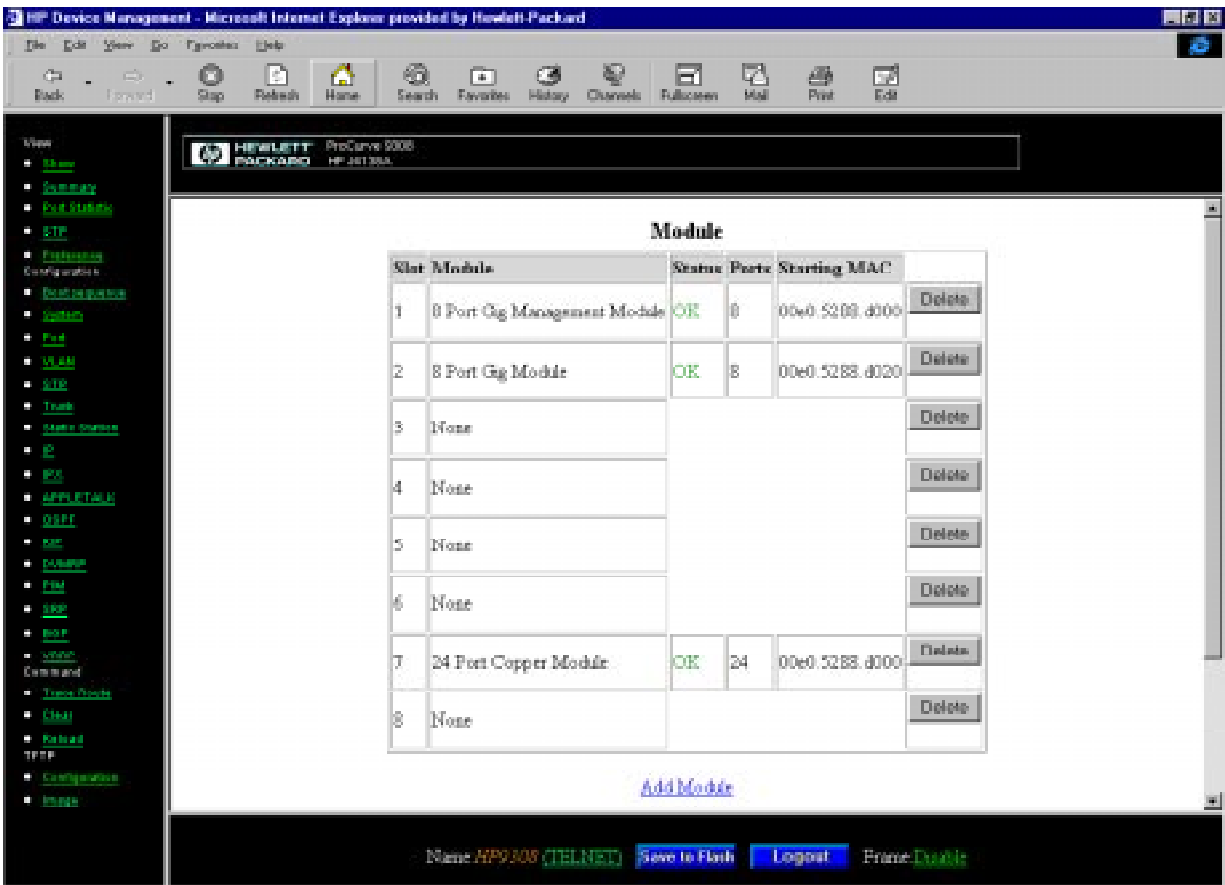

Figure 3.3 Module panel
2. Select the Module link to display the Module panel, as shown in Figure 3.3.